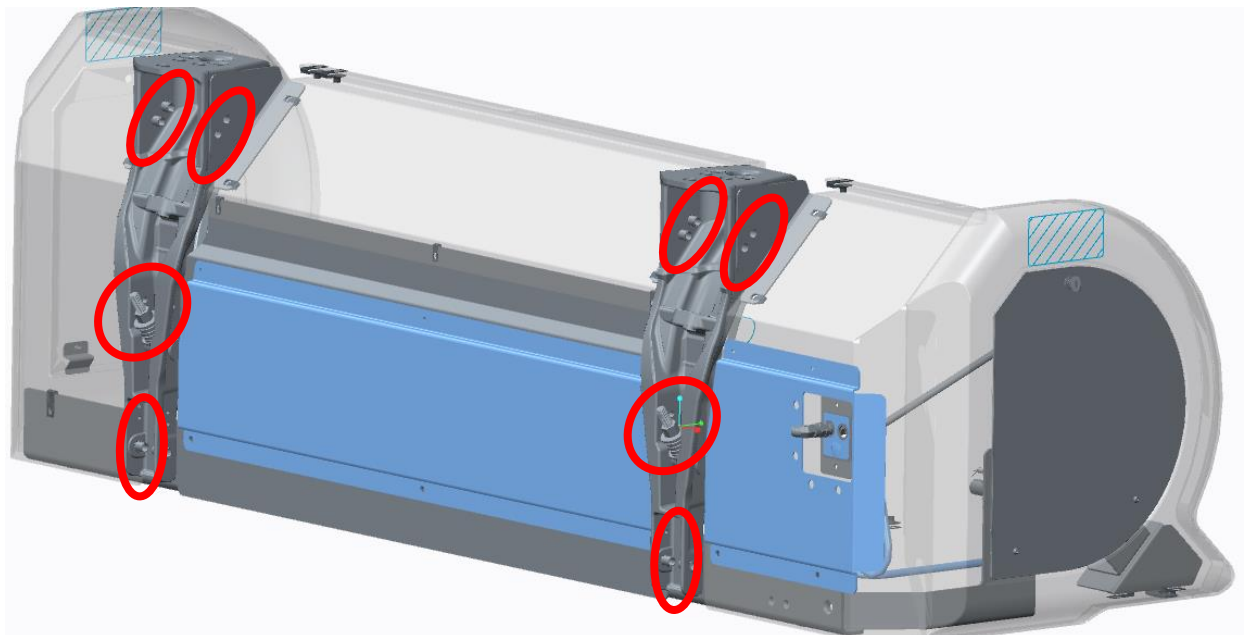

Figure 14. Remove the upper and lower J-bracket bolts. Six bolts total each side, plus the Belleville washer stack and bolt.
1. Refer to Figures 14 and 15. Remove six J-bracket bolts and the Belleville washer stack and bolt on each bracket.